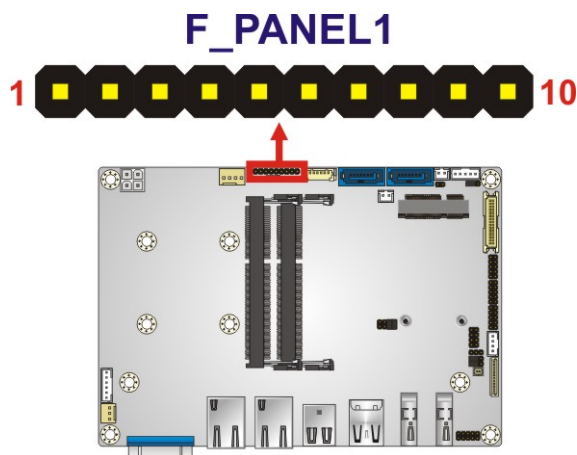

Figure 3-8: Front Panel Connector Location
- CN Location:** See **Figure 3-8**